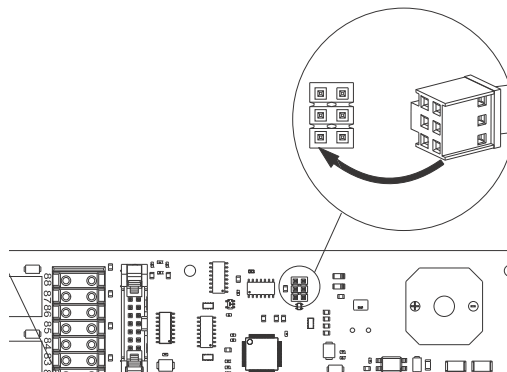

Fig. 4 Connecting the TTL cable to LC controller
**Always use an antistatic service kit when handling electronic components. This will prevent static electricity from damaging components. See fig. 4.**